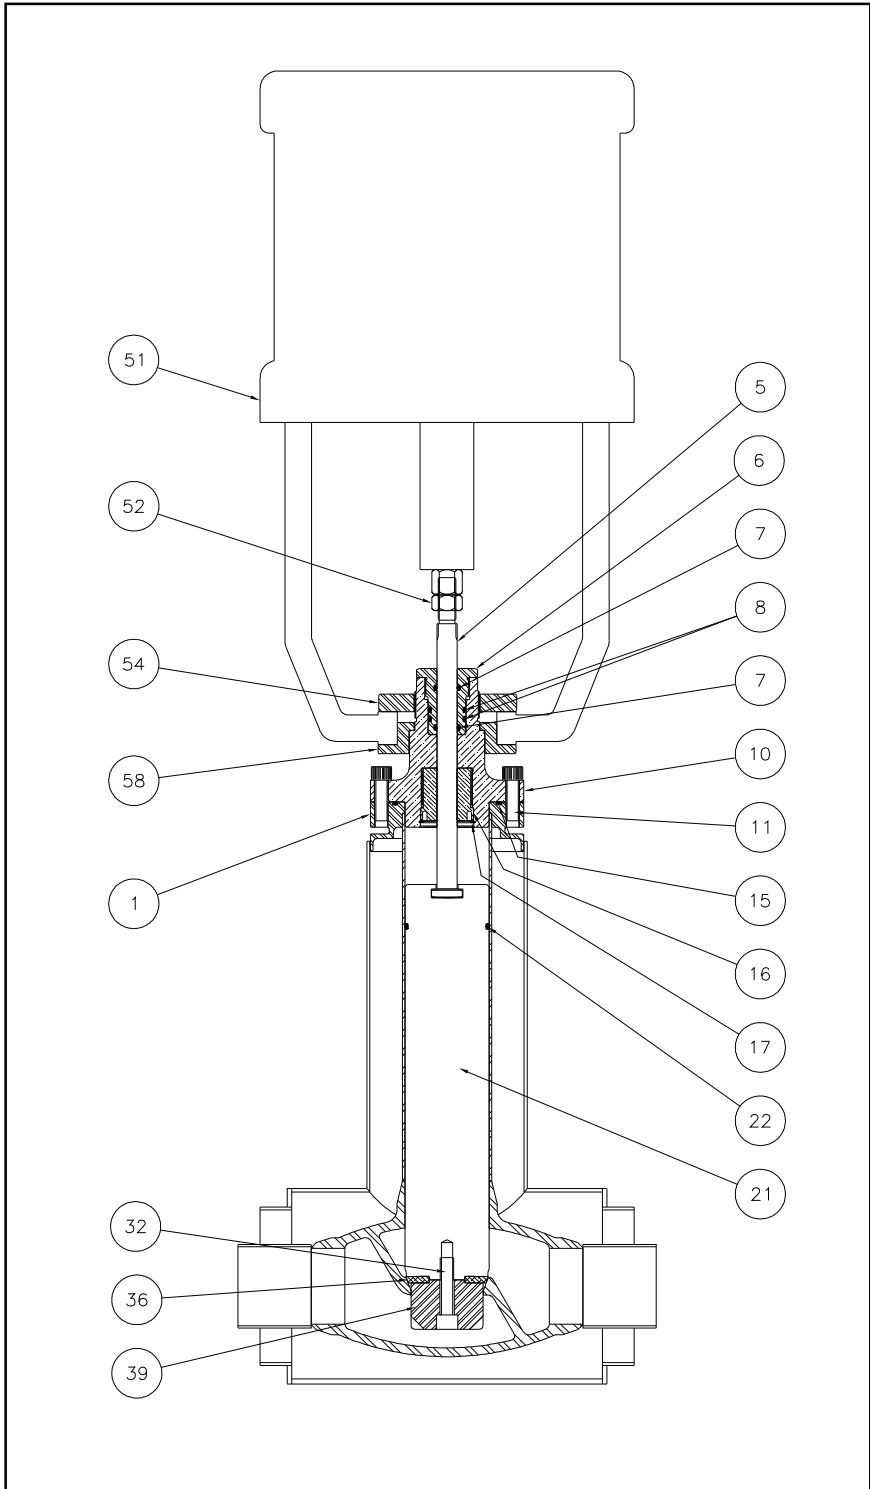

Figure 1 – Parts Diagram, 1/2" to 4" NPS
- The Seal Disc (36) is replaced by first removing the Barrel (21) and plug assembly per Section 1.1 instructions.
- Removing the Flow Plug Screw (32) from the Flow Plug (39).
- Remove and replace the Seal Disc. The bevel on the outside diameter of the Seal Disc **must** be oriented as shown in Figure 1.